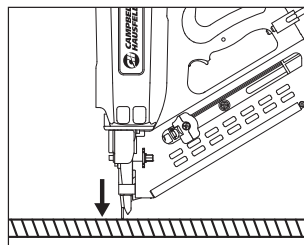

Figure 13
1. Keep finger **OFF** the trigger. Depress the WCE by placing nose of tool against a solid surface and depressing the nose as you would for normal use. The tool **MUST NOT** actuate (see Figure 13). At this point, the tool should eject a small, metered quantity of fuel into the combustion chamber. The tool fan should start, dispersing any gaseous exhaust.